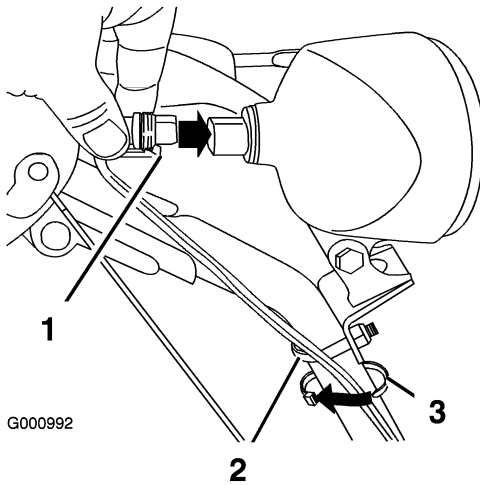

Figure 12
- Insert the wire connector on the loose end of the wire straight into the back of the headlight until it is securely in place (Figure 12).
Note: Ensure that the plastic clip on the wire connector is on the bottom (Figure 12).
- Secure a cable tie (from the loose parts bag) around the wire and the handle about an inch (2.5 cm) below the U-bolt (Figure 12).